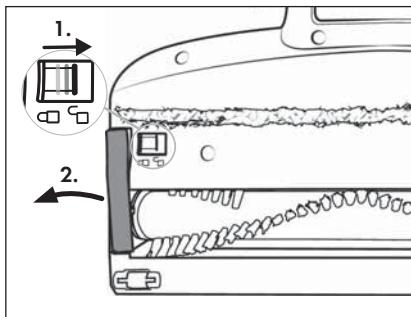

Fig. 29
- Clean the rotary brush ②1 regularly to ensure proper operation of the appliance and avoid malfunctions.
- 1) Remove the floor brush ②2 from the suction pipe ②4 or from the appliance (see section **Dismantling the appliance**). Turn the floor brush ②2 upside down.
- 2) Unlock the rotary brush ②1 by sliding the rotary brush release ⑯ with your finger towards the symbol □ (open). Remove the rotary brush holder ②0 from the floor brush ②2 (see Fig. 29).